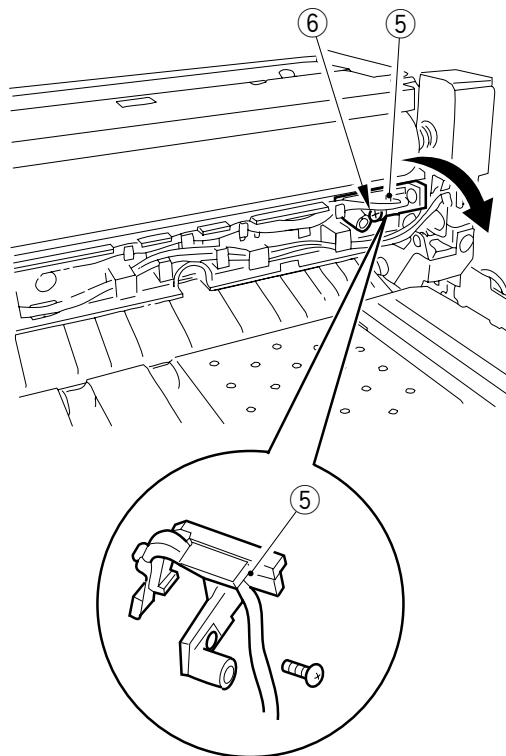

Figure 6-232
The sub thermistor cannot be replaced in the field. Replace it as part of the sub thermistor unit ⑤ shown in Figure 6-232.